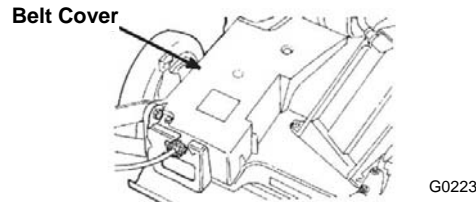

Figure 23
3. Remove the bolts that secure the belt cover to the lawn mower housing (Fig. 23).